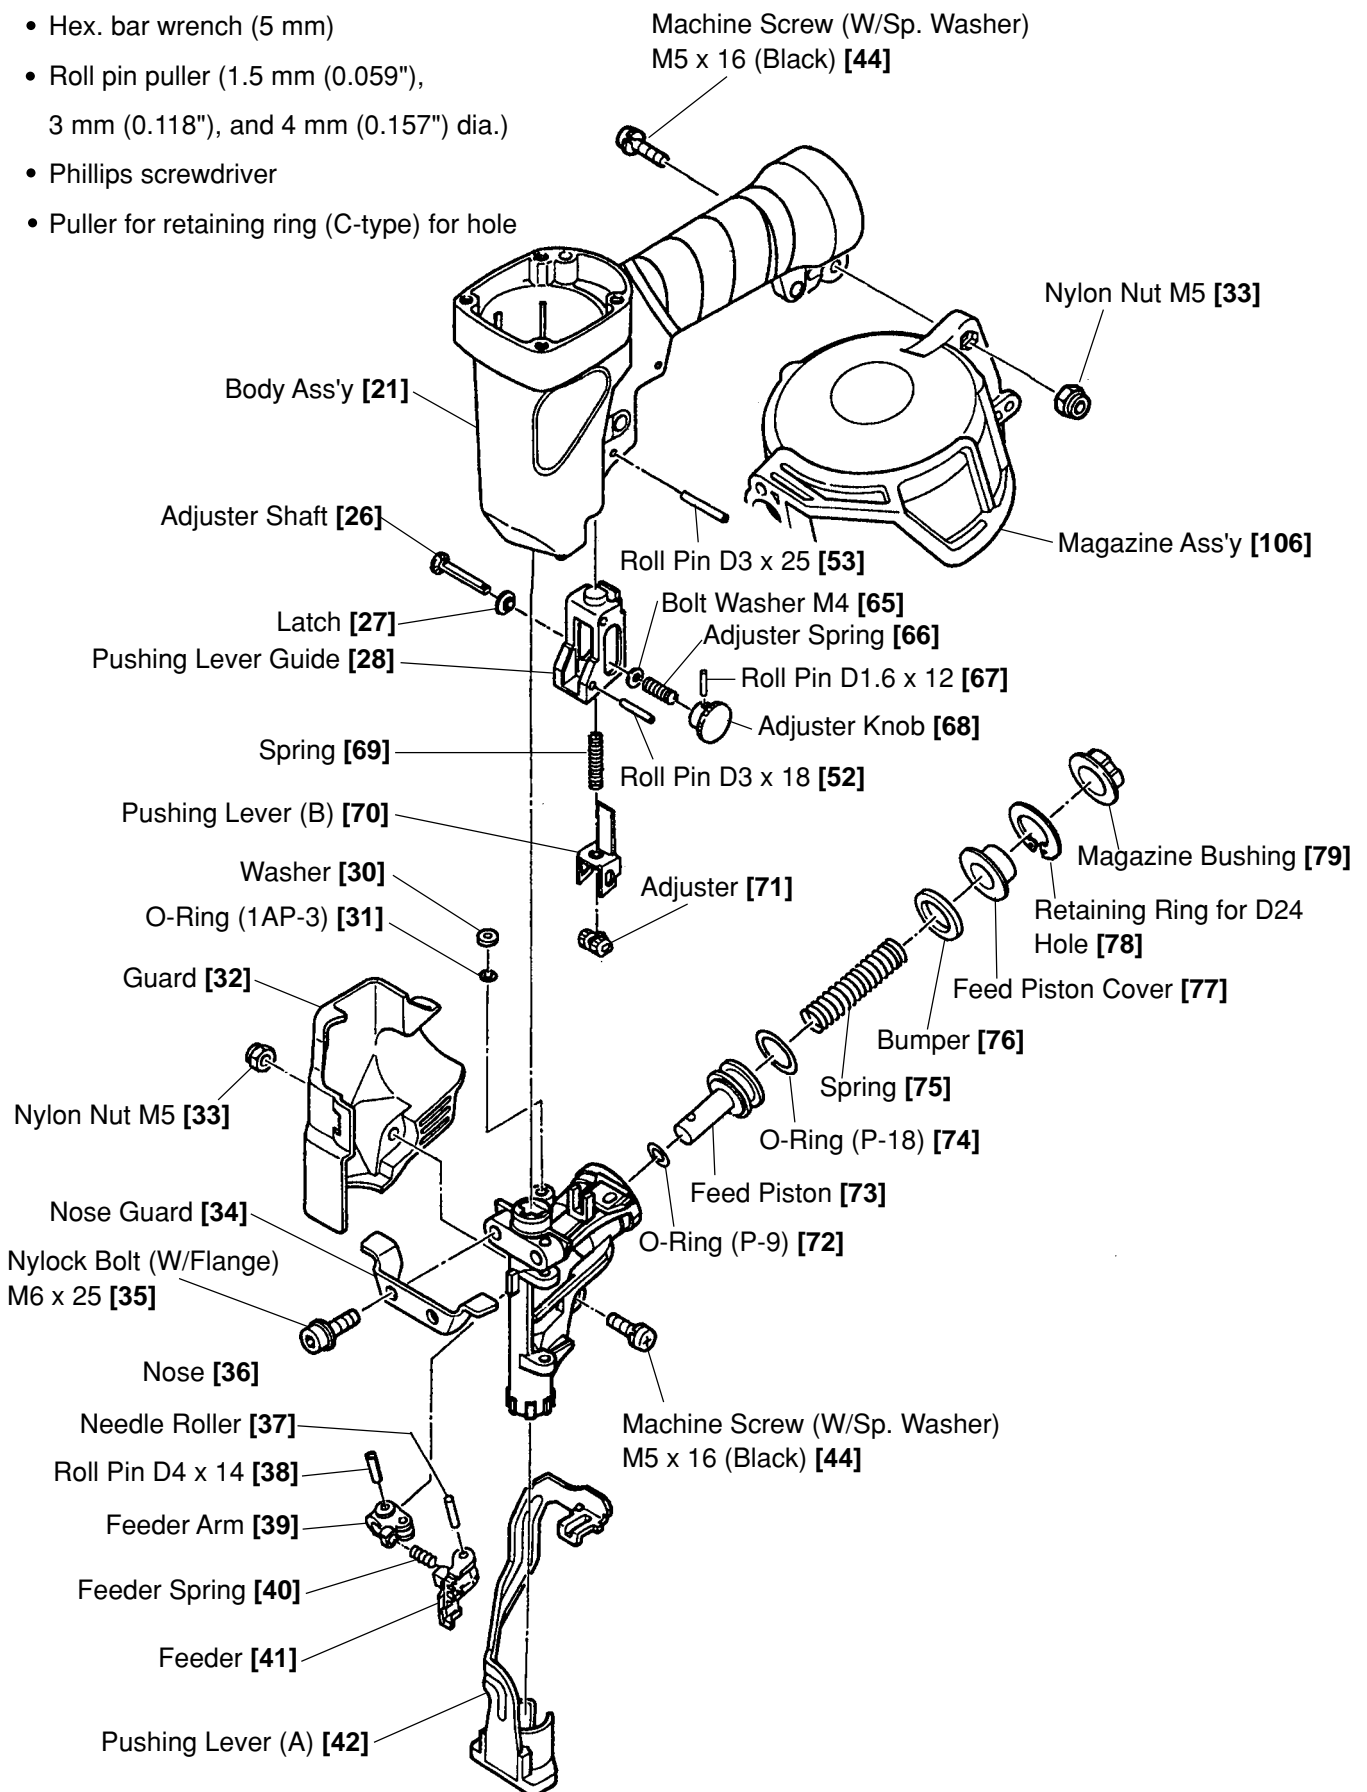

Fig. 17 Disassembly and reassembly of the driving section
10-4. Disassembly and Reassembly of the Driving Section (See Fig. 17)
(See Fig. 17)
(2) Disassembly and reassembly of the adjuster section (See Fig. 17)
(3) Disassembly and reassembly of the Feeder [41], Feed Piston [73], etc. (See Fig. 17)